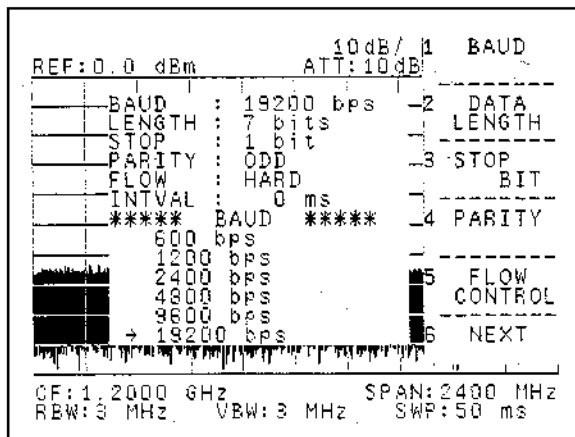

Figure 5-33 Transmission speed setting
③ Data length setting. Press **2** **DATA** **LENGTH** on the display softmenu shown in Figure 5-33. Each time this softkey is pressed, the "→" will move, enabling the data length to be select.